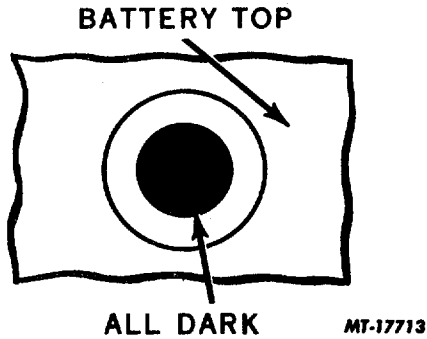

Fig. 3 Test Indicator Dark (Green Dot Not Visible)
2. DARK (GREEN DOT NOT VISIBLE) (Figure 3)
- b. Dark (Green Dot Not Visible) (Figure 3)